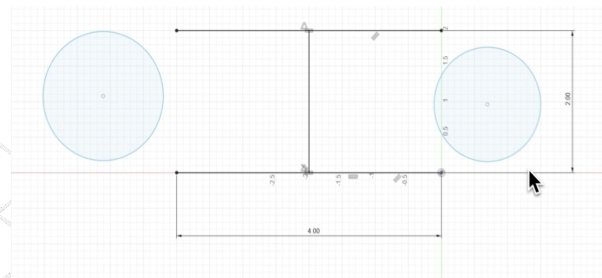

Figure 1.4
- We've added circles to our drawing to show profiles. You'll see that the enclosed area of the circle appears blue; this indicates a profile. (see Figure 1.4)